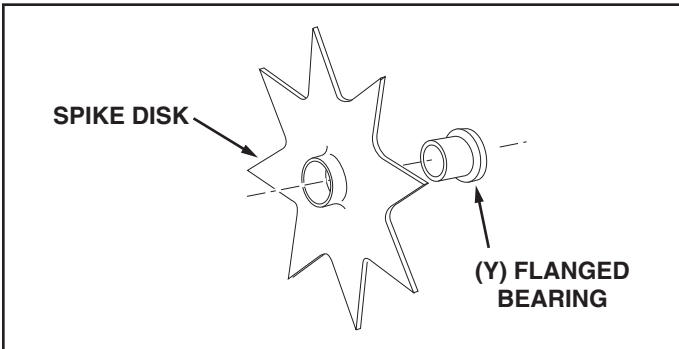

FIGURE 12
30. Install a flange bearing into the flat side of each spike disk, as shown in figure 12.